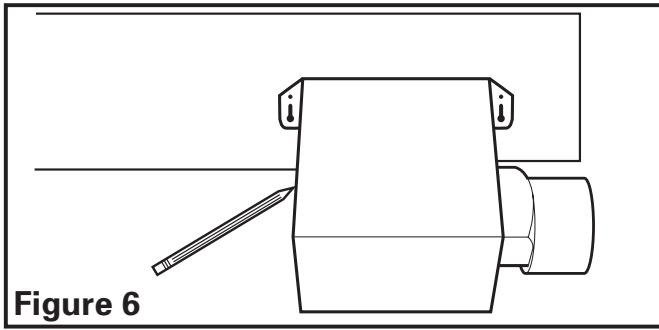

Figure 6
- 1b. **Mounting Tab Installation:** Position housing against the joist and trace an outline of the housing onto the ceiling material (**Figure 6**). Set housing aside and cut opening, being careful not to cut or damage any electrical or other hidden utilities. Place housing next to the joist and insure that it is flush with the finished ceiling. Secure with four nails or screws (not provided) to ensure proper installation (**Figure 4**).